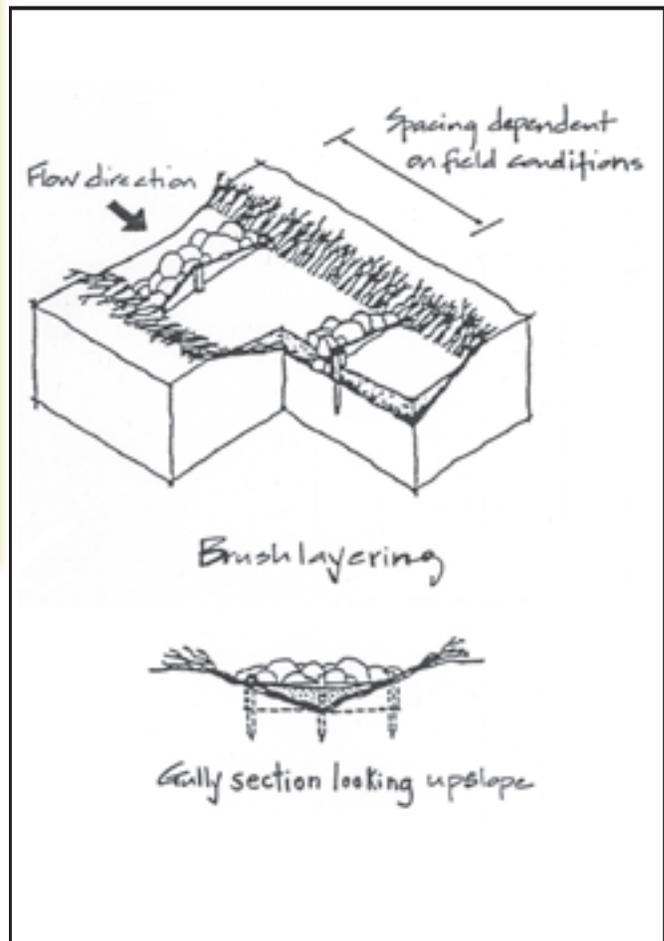

Figure 3–67—A gully can be treated with brush layering. Drawings courtesy of Lisa Lewis (Lewis and Ogg 1996).
- Can be used to treat a gully (figure 3–67).
A live cribwall is used to rebuild a bank that is nearly vertical (figure 3–68). The cribwall consists of a boxlike interlocking arrangement of untreated log or timber members. The structure is filled with rock at the bottom and with soil beginning at the ordinary high-water mark or water level when the stream is bankfull. Layers of live branch cuttings root inside the crib structure and extend into the slope. Once the live cuttings root and become established, vegetation gradually takes over the structural functions of the wood members. Live cribwalls should be tilted back if the system is built on an evenly sloped surface.